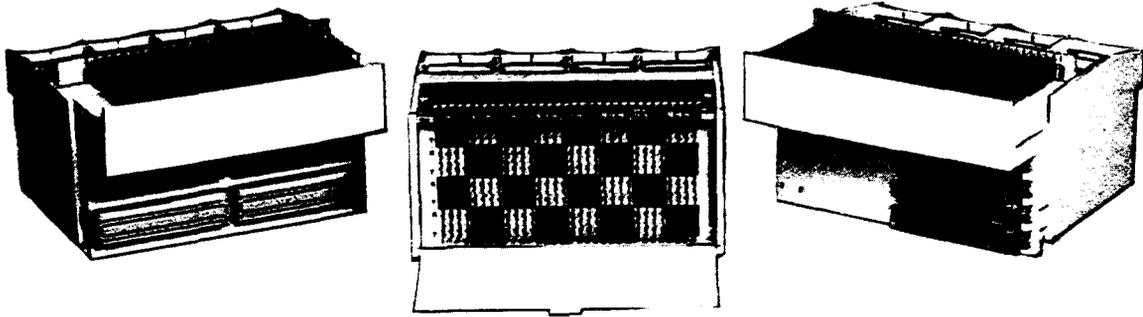

Figure 36—89M-Type Connecting Blocks
8.18 The 89M connecting blocks (Figure 36) are specifically designed to provide high density termination of CO equipment and cross-connect facilities on conventional distributing frames. Each block is factory preconnectorized with either 25 or 32 pair 711 or *TRW* (male) connectors that are permanently mounted inside the block housing.